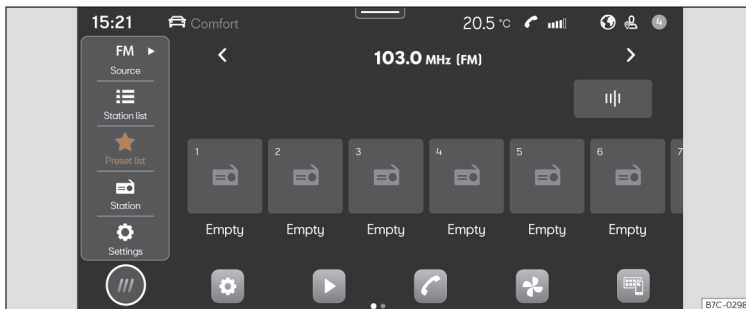

Fig. 129 Schematic representation: Radio view
- Press **HOME** > >>> **Fig. 129** .